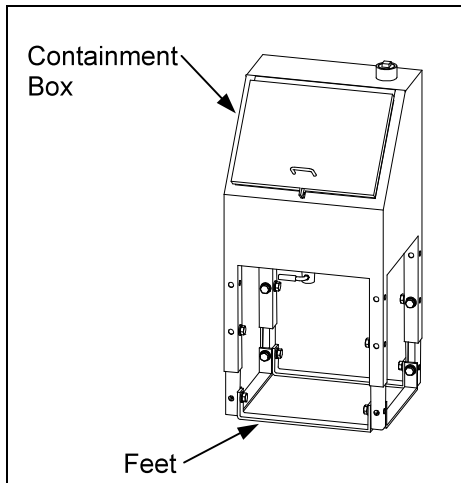

Figure 3
3. Using the included hardware, bolt the feet to the bottom of the legs. (See Figure 3.)